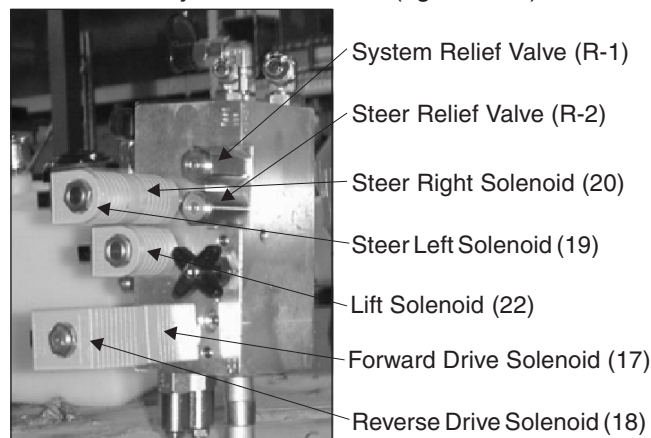

Figure 7.13—Solenoids and Relief Valve
2. Remove wire 17 from the forward drive solenoid (17) (figure 7.13).
5. To adjust the relief setting, remove the external cap from the system relief valve (figure 7.13).
4. To adjust the relief setting, remove the external cap from the steer relief valve (figure 7.13).